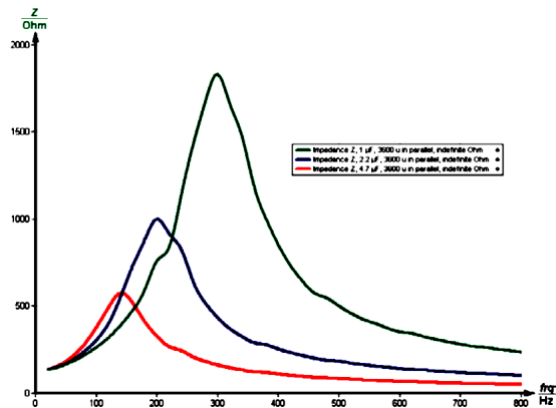

Figure 2.39:
- 4) Plot the impedance in dependence on the frequency for  $C = 1 \mu F$ ,  $2.2 \mu F$  and  $4.7 \mu F$  and  $R_D = \infty \Omega$  (Figure 2.39).